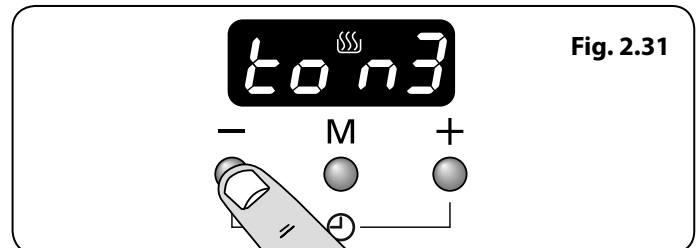

Fig. 2.31
2. To select the tone press the [-] button until desired tone is reached (**Fig. 2.31**).